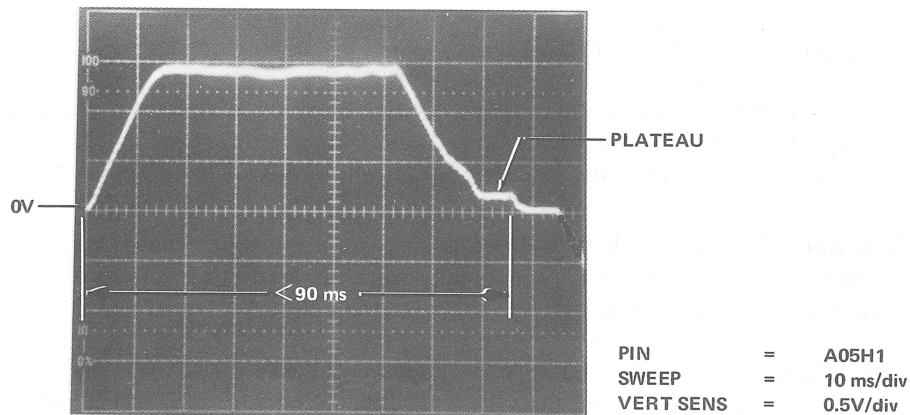

Figure 5-15 Full Stroke Waveform
- Observe A05H1 (VELOCITY) for a scope display as illustrated in Figure 5-15. The 0V level of the profile must be reached in less than 90 ms from the start of the seek. In addition, there must be a definite plateau (constant voltage level) at the end of the seek. If this is not the case, recheck the Velocity Amplitude (VA) and the Acceleration (Positioner Current). Adjust the appropriate potentiometer (Table 5-4) as required to obtain the correct waveform.